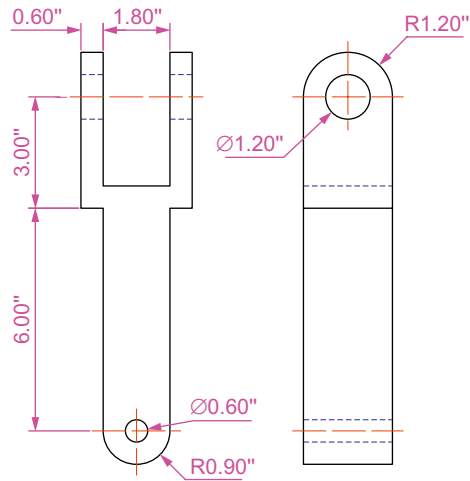
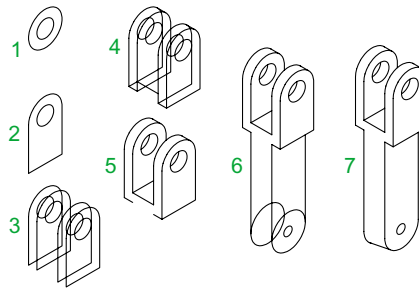

Fig. 7.23 Second example – isometric drawing – orthographic projection
Fig. 7.24 Second example – isometric drawing – stages in the construction
### Second example – isometric drawing (Fig. 7.24)
Fig. 7.23 is an orthographic projection of the model of which the isometric drawing is to be constructed. Fig. 7.24 shows the stages in its construction. The numbers refer to the items in the list below:
1. Fig. 7.26 is a first angle orthographic projection of part of the fitment shown in the isometric drawing Fig. 7.23. Construct a three-view third angle orthographic projection of the part.